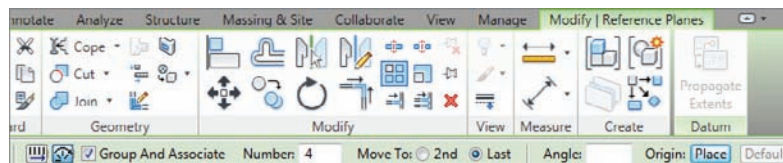

FIGURE 4.12 Setting the options for the Radial array
3. With the Array command active, you will see some choices available on the Options bar, as shown in Figure 4.12. For this procedure, click the Radial button.